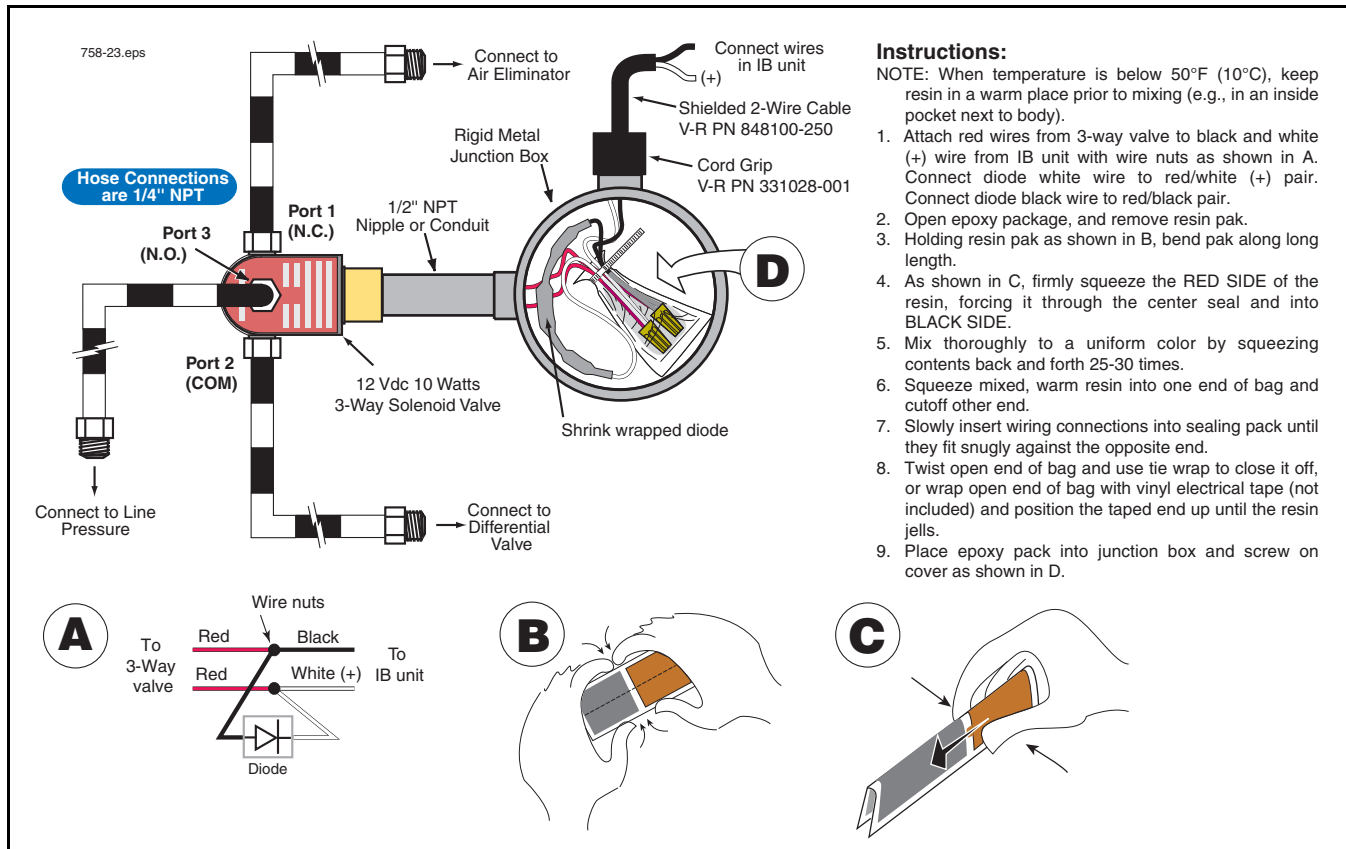

Figure 24. Connecting 3-Way Valve To Neptune Meter - Truck LP Gas Installations
1. On the valve, install a rigid metal conduit nipple in the threaded opening, provided for the solenoid wiring. Run the two red wires from the 3-way valve, through the nipple and into a metal junction box. Mechanically attach the valve/nipple combination to junction box as shown in Figure 24. *Even though the 3-way valve will operate in any position, it will last longer and perform best if mounted vertically upright (port 3 up).* Secure the junction box to the vehicle's frame.
- Using the wire nuts, connect the stripped wires from the IB box to the 3-way valve wires (see Figure 24). There is no polarity to the 3-way valve's wiring. Seal the wire nuts with epoxy sealant using one bag for both wire nut connections and place bag in junction box (see Figure 24).
Connect a hose from line pressure to port 3 (normally open port) of the 3-way valve (see Figure 24). On some systems, line pressure is available at an opening in the vapor eliminator housing. Connect another hose from the 3-way valve's port 1 (normally closed port) to the air eliminator. Connect a third hose from the 3-way valve's port 2 (common port) to the differential valve.